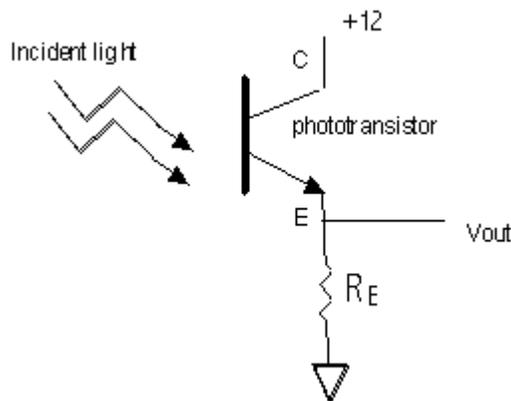
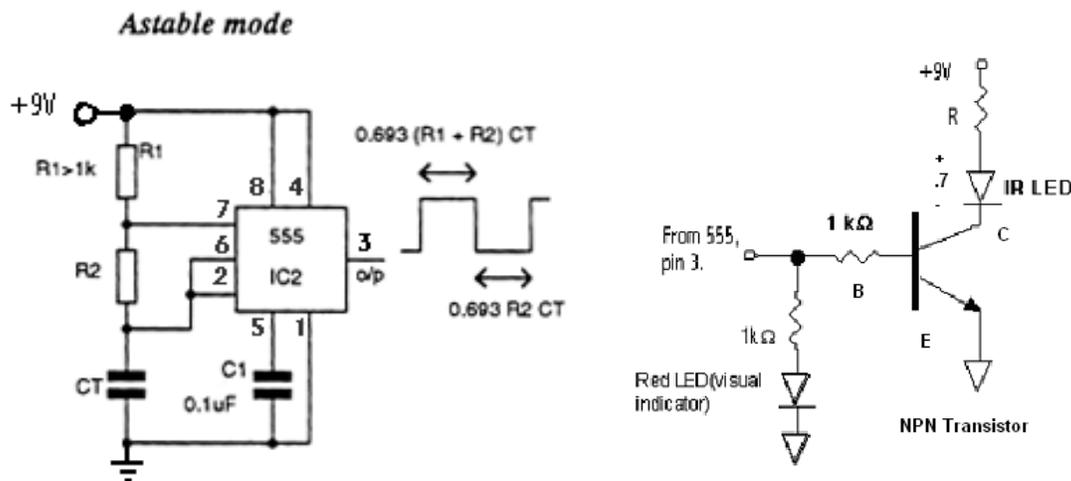

Figure 3: Phototransistor Diagram
Figure 4: Astable 555 timer circuit and IR LED driver circuit.
The BPW77N NPN Phototransistor works like a typical NPN transistor, only that the current that is supplied to the Base component of the phototransistor is now powered by the infrared light it receives. The Infrared light it receives on the base of the transistor generates a low-level current that is amplified, with the resulting current flowing out through the collector-emitter junction (flowing through the C and E terminals). Figure 3 shows the circuit diagram of a phototransistor. Note that when a resistor is added to the emitter terminal, a voltage level proportional to the incident light intensity can be observed between the emitter and ground. Depending upon your system specifications,  $R_E$  can have values between 500 Ohm and 1 MOhm.
In this lab, you will use a 555 timer integrated circuit to modulate the transmitted light, the timing of which is controlled by externally connected resistors and capacitors, as shown in Figure 4. For the IR LED, we want a resistance  $R$  that will limit the current to 50 – 100mA. Pin 3 on the 555IC drives the transistor and the indicator LED, and the transistor drives the IR LED. This is necessary, as the 555 cannot supply the necessary
- 1) Build the circuit in Figure 3 ( $R_e = 1K$  or  $3.3K$ ). Connect  $V_{out}$  to the multimeter. Test your circuit what happens when you: a) obstruct the phototransistor with your hand; b) partially block the overhead lights using your body c) point the phototransistor at the room lights. Record your observations.
- 4) Construct the circuit in Figure 4 (transmitter), taking into account your selected system frequency. **DO NOT DISMANTLE THE RECEIVER CIRCUIT FROM FIGURE 3.** This circuit should be constructed on an independent breadboard and powered by a 9V battery. Use a pushbutton switch to connect the battery to the circuit. Please note that the transmitter circuit should only be powered when you press the button. Verify that the red visual indicator glows when the button is pressed. Should you be able to see the diode flicker on and off?
The cutoff frequency,  $F_o$ , of this circuit is defined to be  $F_o = 1/(2\pi R_{eq}C)$ , where  $R_{eq}$  is the series combination of  $R_1$  and  $R_e$  from Figure 3. Please note that this filter DOES NOT have a sharp cutoff. Therefore, select your cutoff frequency to be much larger than 120Hz, yet still below the modulation frequency of your transmitter. As you saw in step 4 of the previous procedure, there will be a small 120 Hz wave across  $R_e$  of the photo transistor circuit. This is due to a flickering that is associated with the fluorescent lights in the room (But, why do they flicker?). The gain of this circuit is defined as  $R_2/R_1$  for frequencies above the cutoff frequency.
- 1) Connect the flip-flop shown in Figure 4 to the output of the comparator in your circuit to provide an on/off latch for your circuit. We will connect the comparator output to the clock input, thus toggling the lamp from on to off, and vice versa, every time the comparator output goes high, which should be every time the transmitter button is pushed.